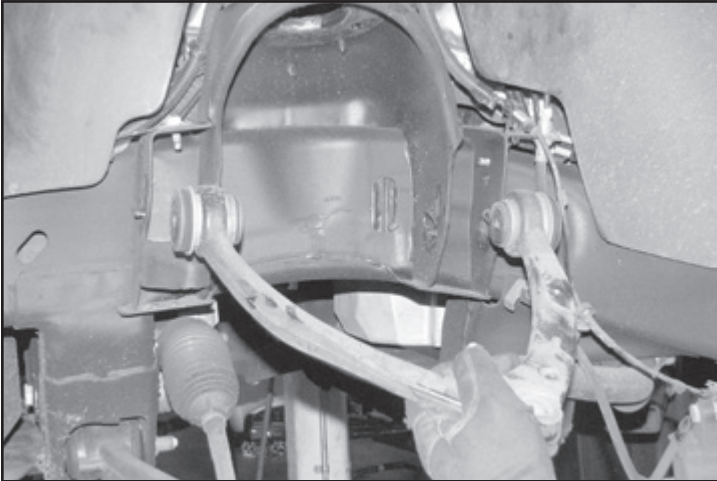

FIGURE 1
3. Mark the location of the alignment cams on the frame of the upper control arm pocket. Remove the upper control arm and retain the factory hardware. **SEE FIGURE 1**